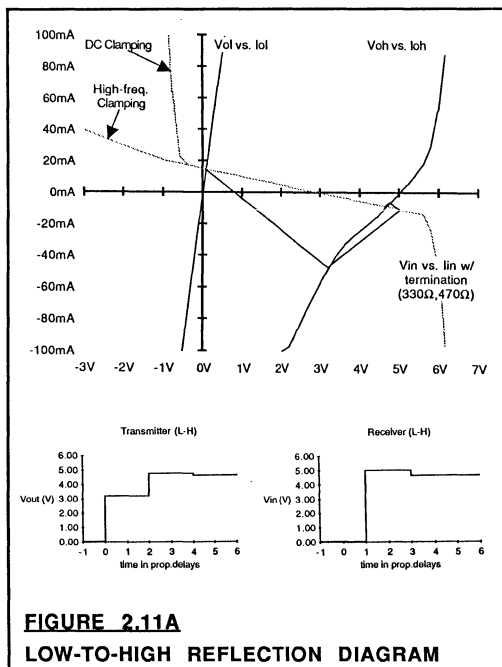

FIGURE 2.11A
The total capacitive load presented by the bus line is approximately $20 \cdot (20) = 400$ pF. The driver circuits of the V54/74ACT family will have a typical rise time of 10ns to drive this type of load. Thus, if the bus is driven from one end, the total propagation time for a round trip will be $2 \cdot t_{PD}' = 2 \cdot 11.2 = 22.4$ ns. This implies that $t_{RISE} < 2 \cdot t_{PD}'$ and the reflected waveforms will cause a certain amount of ringing. This situation requires the use of termination networks. Reflection diagrams are drawn in Figures 2.11A and 2.11B to show the various voltage and current steps for low-to-high and high-to-low transitions.